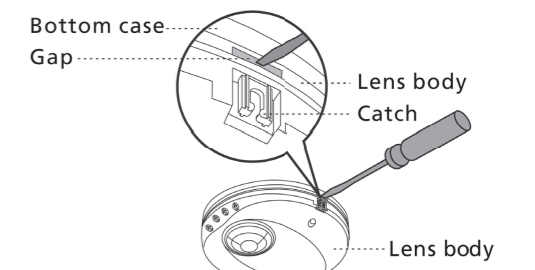

Fig. 7
- 3.3.2** To separate bottom case from lens body force a small flat blade screwdriver into the hidden gap shown partially exposed in Fig. 7 then push screwdriver in towards centre and lever bottom case assembly away from lens body pins.